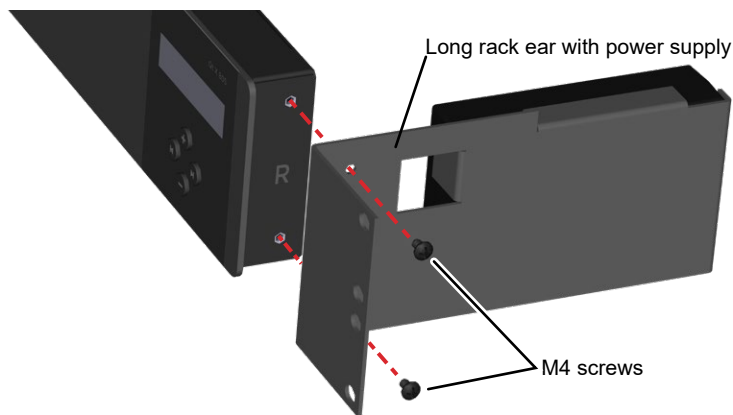

Figure 4. Attach rack ears to the controller
4. Attach the rack ears to the Qt X controller with the M4 screws removed in the first step. Mount the longer bracket with the power supply to the right side on the controller (Figure 4). The brackets and controller are marked with R/L. Match the bracket to the appropriate side of the controller.